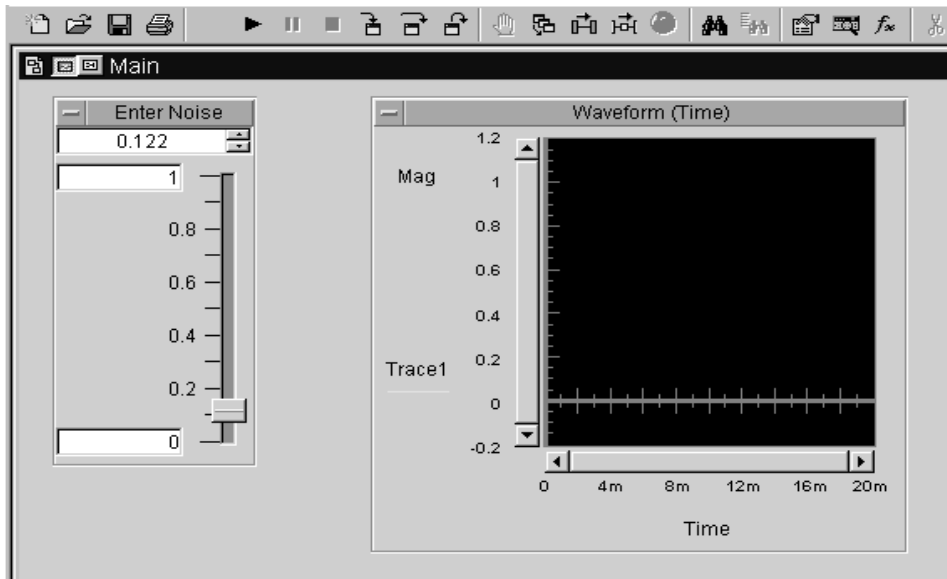

Figure 2.6. The Panel View of PulseProgram
47. Click Add to Panel; the selected objects will appear in the Panel View. See Figure 2.6.